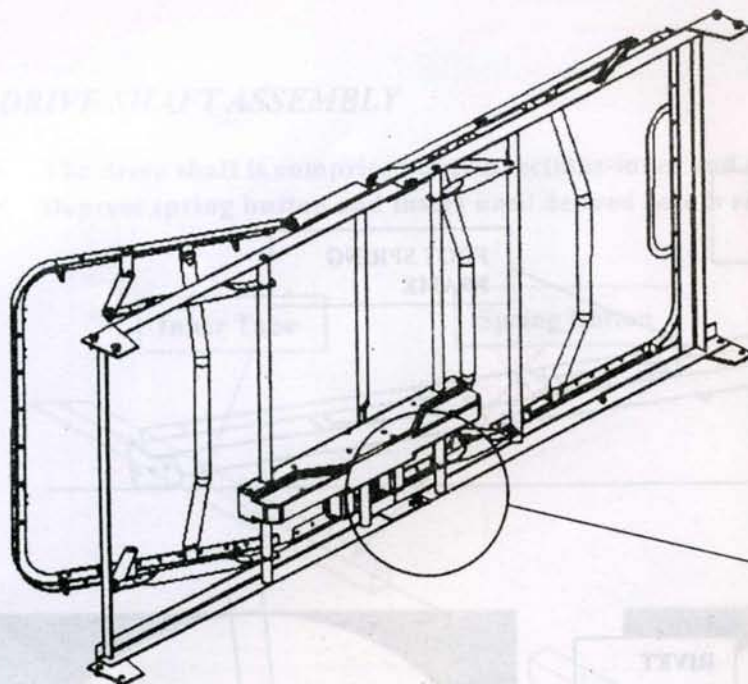

Figure 2
- Straighten sections and position as shown in figure 2.
Figure 2. Insert lock pin through adjustment hole. Note: If lock pin can not insert through the holes easily, rotate the crank handle (clockwise or counter-clockwise) until the lock pin goes through.